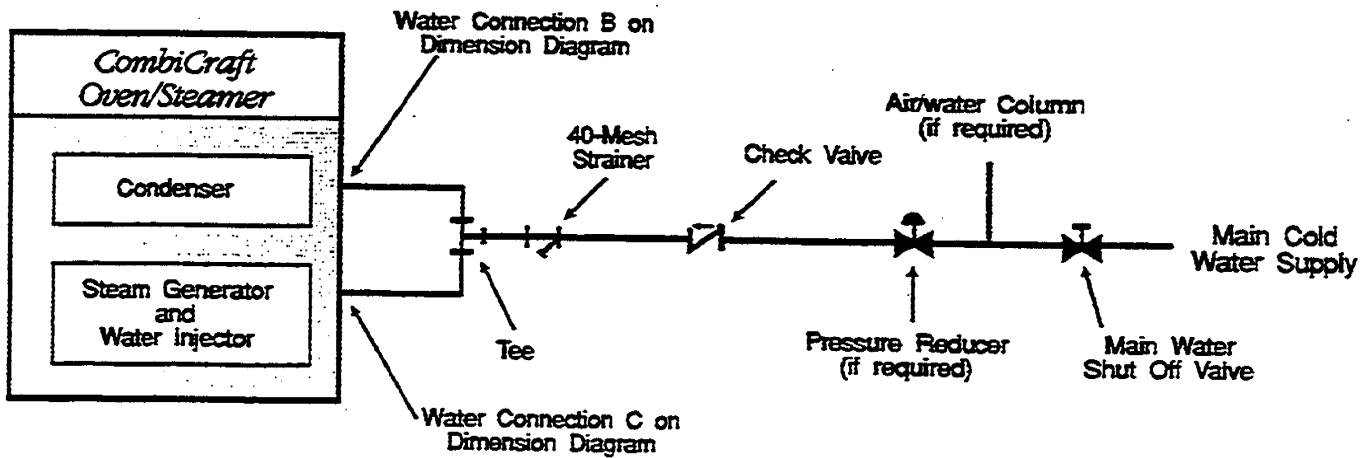

Figure 2-8. Water Supply Lines without a SteamerGard
2. Always connect a cold water supply to the CombiCraft water supply lines. **DO NOT USE HOT WATER.** The oven/steamer will not function properly or within design safety limits if hot or warm water is supplied to either the condenser connection (B) or the steam generator fill connection (C).
5. Refer to the recommended plumbing layouts in Figures 2-8 and 2-9, and install the water supply lines and fittings in accordance with all local and national codes. While constructing and installing the water supply lines, pay particular attention to the following requirements and recommendations.
- b. When installing a water supply system without a SteamerGard, Cleveland Range recommends the plumbing layout illustrated in Figure 2-8.
- b. If the CombiCraft is installed without a SteamerGard, refer to Figure 2-8. Note that the tee is installed after the check valve and strainer to reduce the number of fittings and amount of piping required.